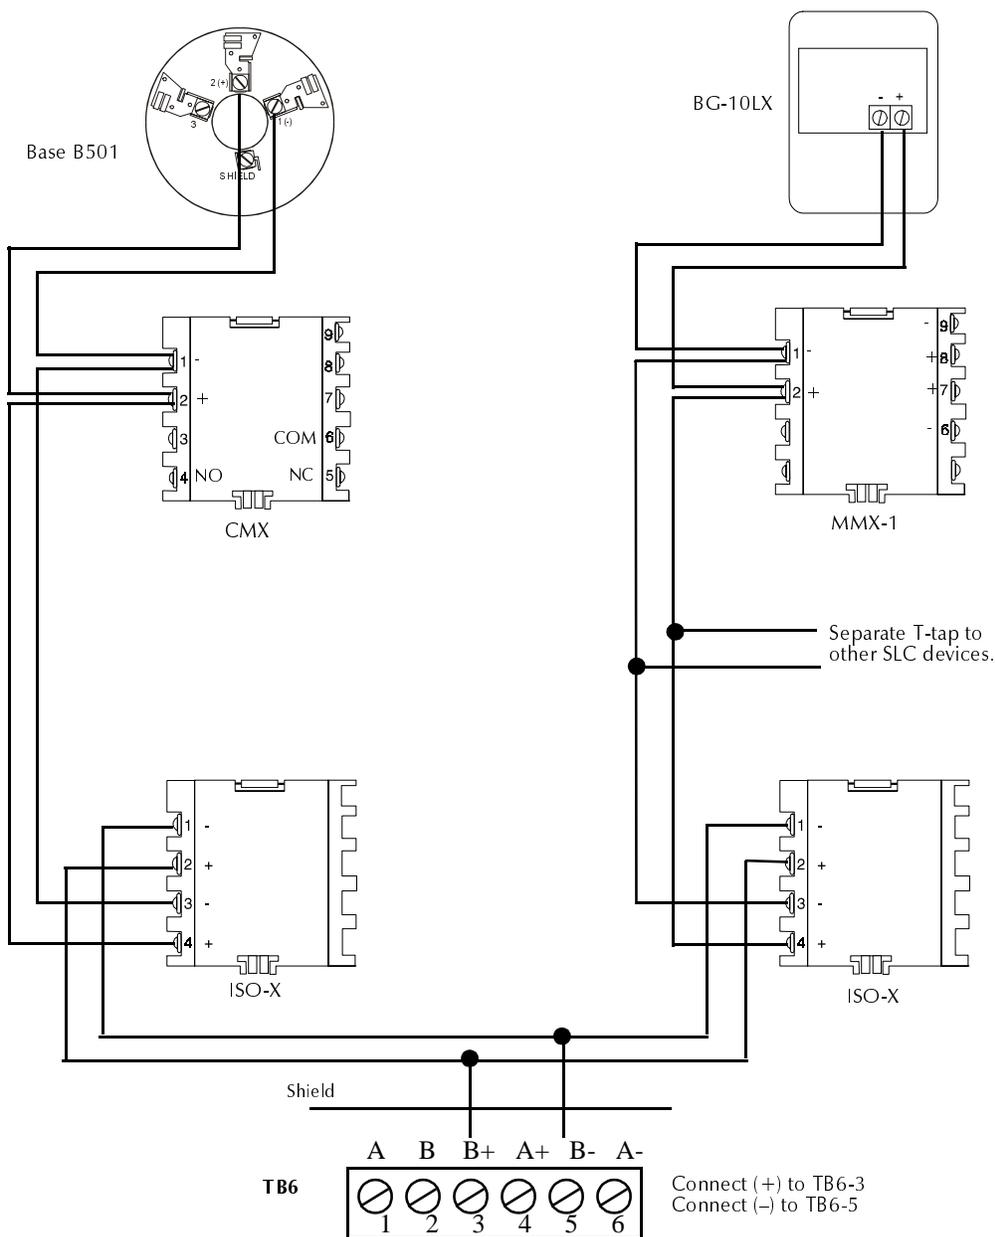
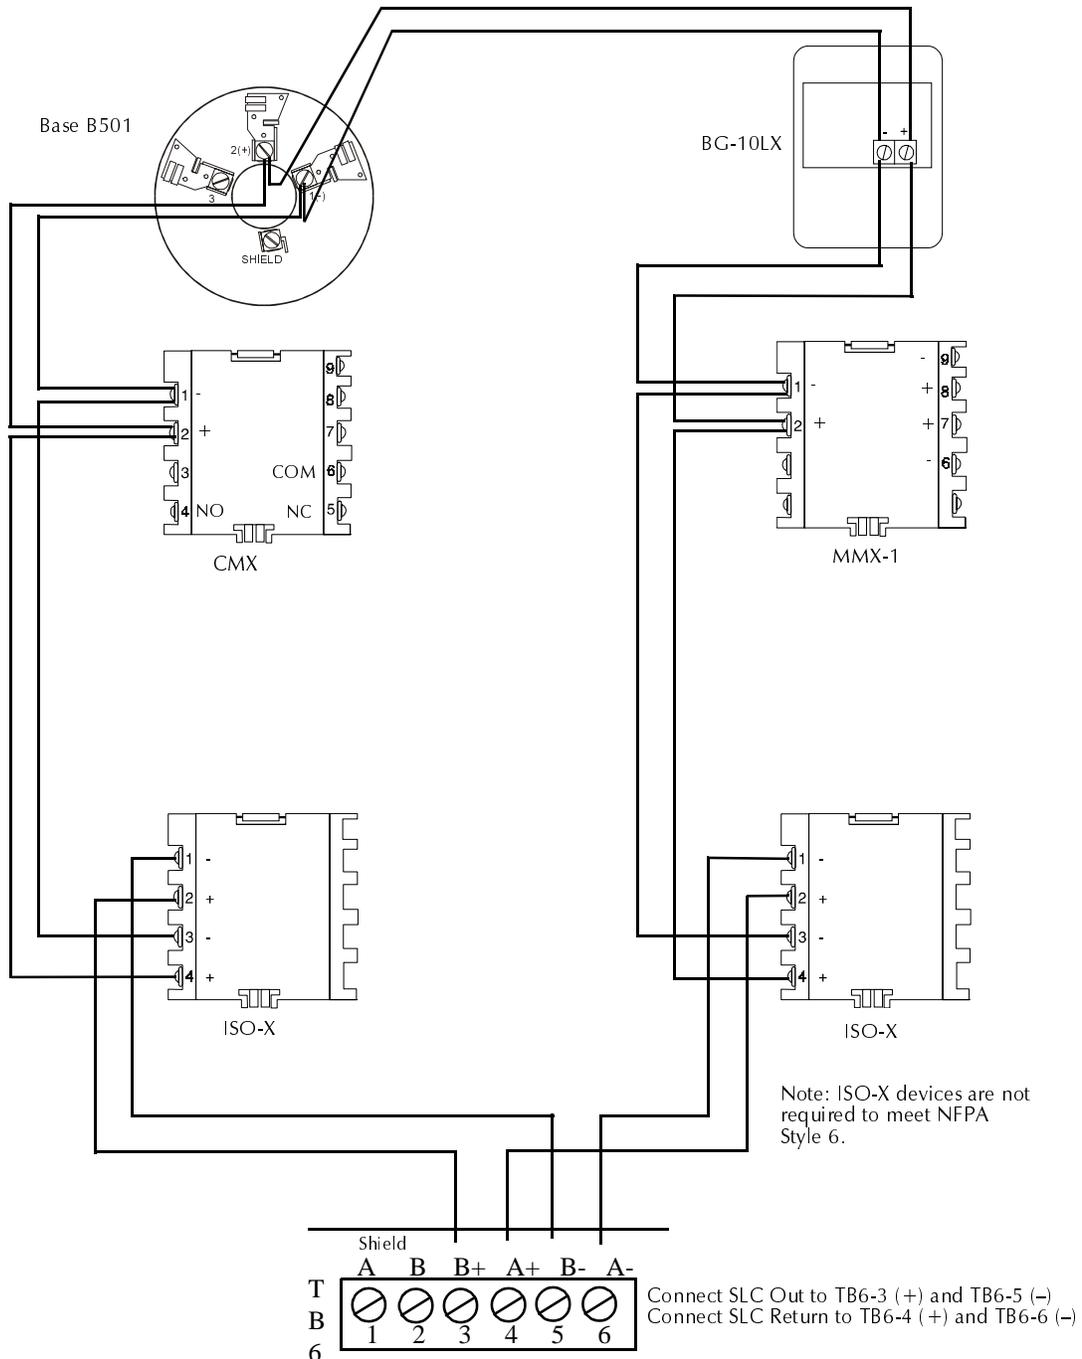

Figure 18 Two-Wire SLC
Figure 19 Four-Wire SLC
- Style 4 (see Figure 18 on page 37)
- Style 6 (Figure 19 on page 39)
ISO-X Modules permit a zone of detectors and modules to be electrically 'isolated' from the remainder of the SLC, allowing critical SLC components to function in the event of a short circuit on the SLC wiring (see Figure 18, Figure 19 and Figure 20). These are required to meet the requirements of NFPA Style 7.
Addressable Monitor Modules allow the control panel to monitor entire circuits of conventional normally-open contacts, alarm initiating devices, manual pull stations, four-wire smoke detectors, heat detectors, waterflow, supervisory devices (see Figure 28 and Figure 29) and conventional detectors (see Figure 30 and Figure 31). The BG-10LX is an addressable manual pull station which contains a miniature monitor module providing point annunciation (see Figure 18, Figure 19 and Figure 20).
Figure 18 shows typical wiring for an Style 4 two-wire SLC:
Figure 19 shows typical wiring for an Style 6 four-wire SLC:
The ISO-X module is used to protect critical elements of the SLC from faults on other branches or sections of the SLC. The ISO-X module continuously monitors the SLC connected to terminal 1(-), 3 (-), 2 (+) and 4 (+). Upon power-up, an integral relay is latched on. The ISO-X periodically pulses the coil of this relay. A short circuit on either side of the SLC resets the relay. The ISO-X senses the short and disconnects the faulty branch by opening the positive side of the SLC (terminal 2 or 4). This effectively isolates the shorted branch from the remainder of the SLC. Once the fault is removed, the ISO-X automatically reapplies power to the SLC branch. Figure 18, “Two-Wire SLC,” on page 37, illustrates the use of an ISO-X on a two-wire SLC meeting NFPA Style 4 requirements. Figure 20, “Four-Wire SLC,” on page 40, illustrates a four-wire SLC meeting NFPA Style 7 requirements.